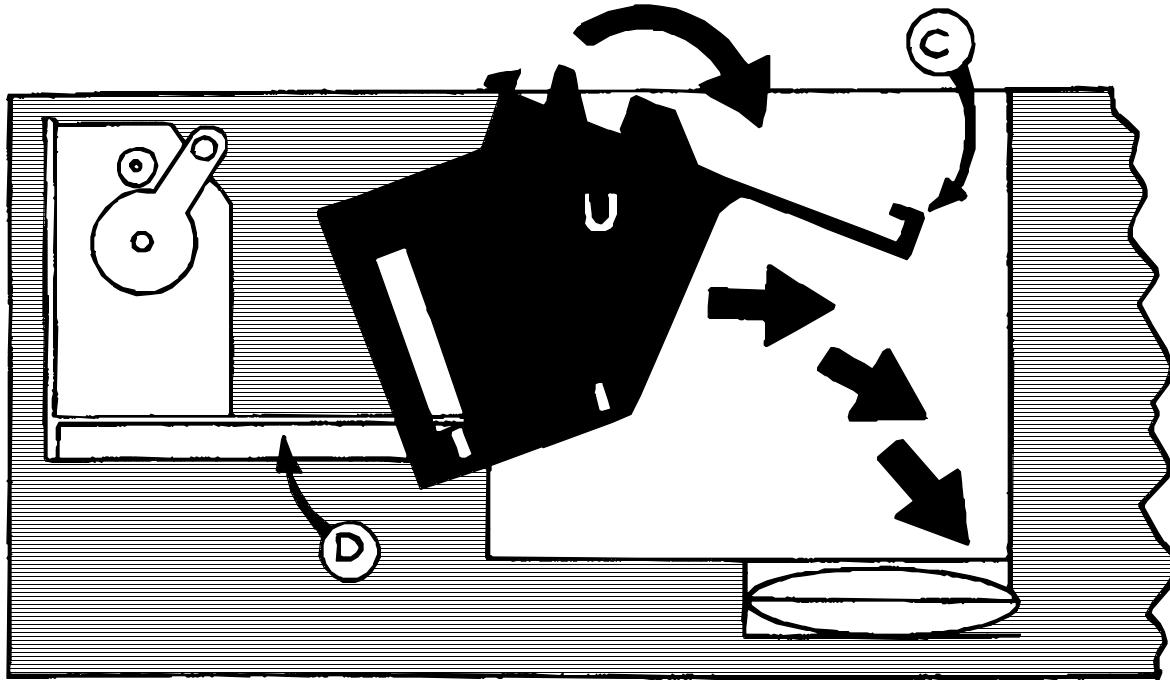

Figure 4-25 Freeing Carrier
- 16.4 Continue sliding Carrier to the right, then tilt the front of the Carrier "C" (part closest to the lens) downward toward the lens to free it from channels "D". (Fig. 4-25)